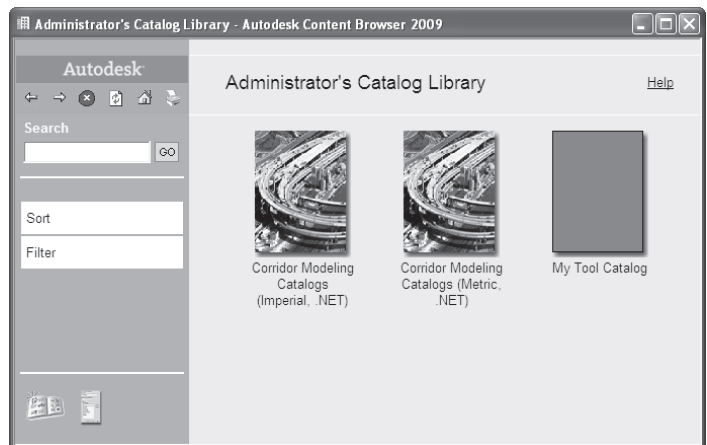

Figure 2.23
9. Click the blue icon located over LaneOutsideSuper and hold down your mouse button. You will see the eyedropper tool fill as in Figure 2.23.